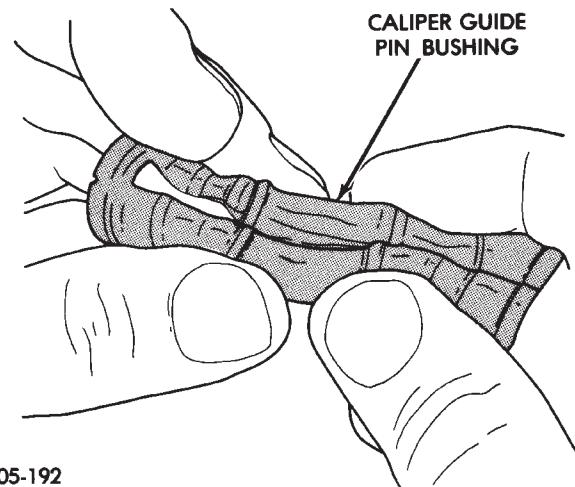

Fig. 177 Folded Caliper Guide Pin Bushing
(1) Fold the guide pin bushing in half lengthwise at the solid middle section (Fig. 177).